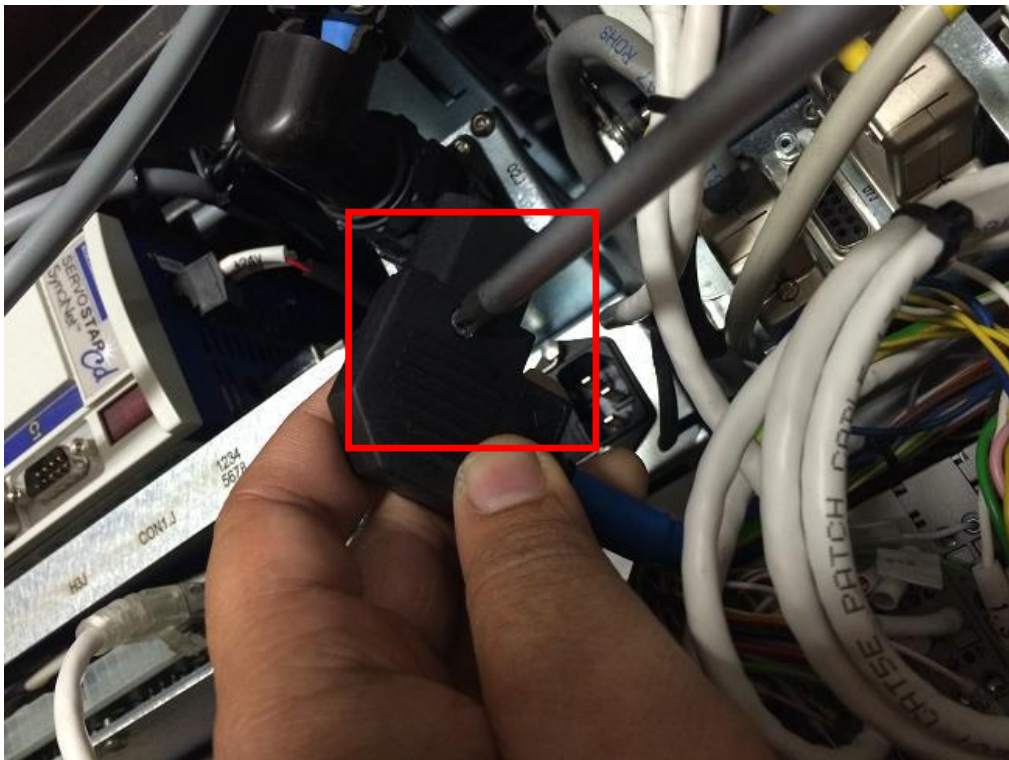

Figure 12
17. Identify Horizontal Type Power Connector where remove at Step 5. Loosen Philip screws at Horizontal Type of Power Connector as Figure 12